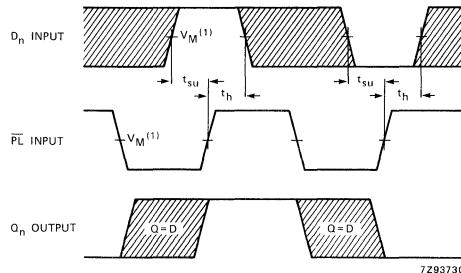

Fig. 16 Waveforms showing the set-up and hold times from the parallel load input ( $\overline{PL}$ ) to the data input ( $D_n$ ).
- (1) HC :  $V_M = 50\%$ ;  $V_I = GND$  to  $V_{CC}$ .
**Note to Figs 16 and 17**